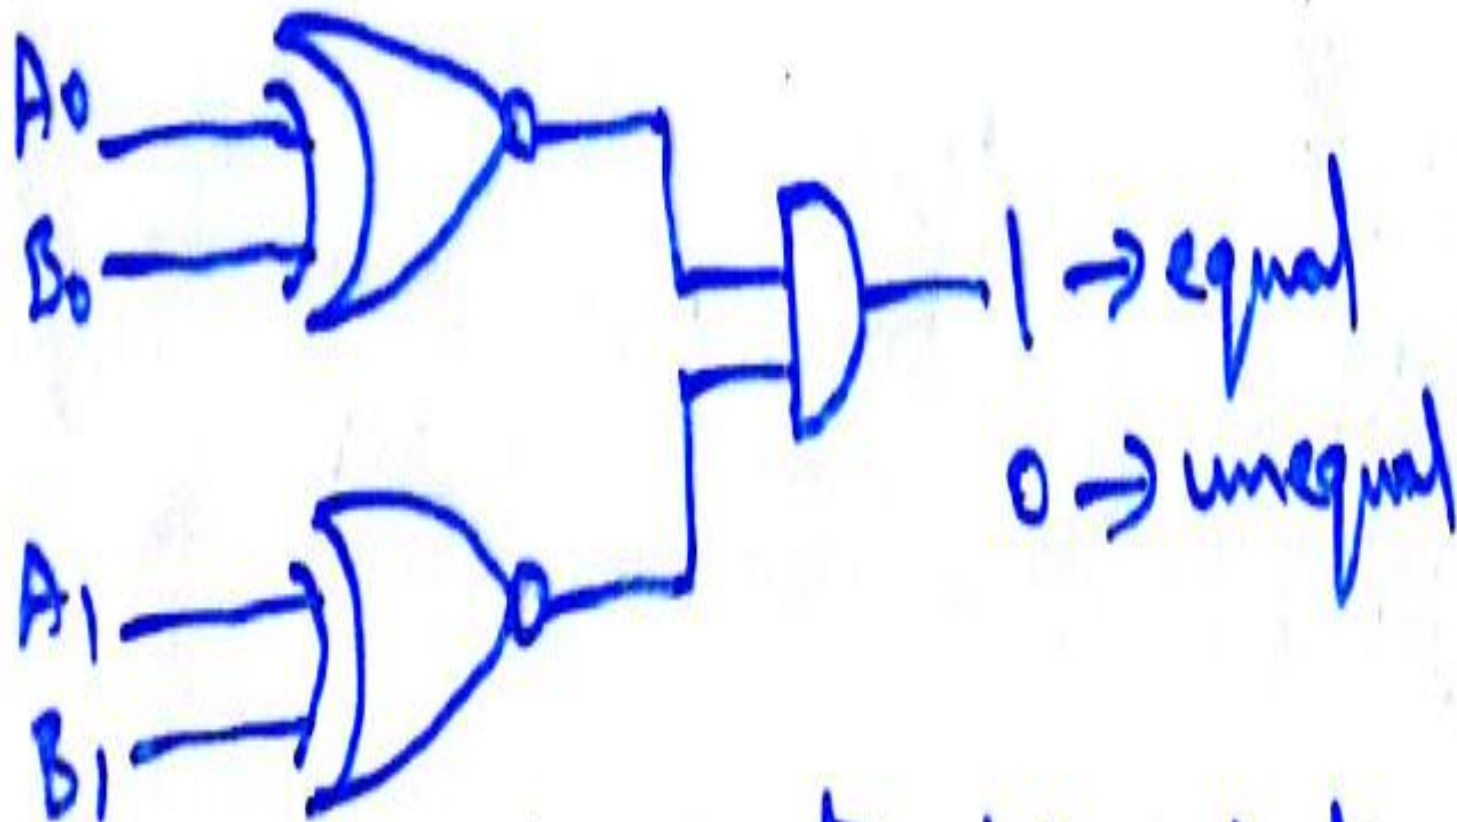

Figure 6-24 Comparator for 2-bit numbers
- In order to compare 2- bit numbers, the diagram shown in Figure 6.24 is used.